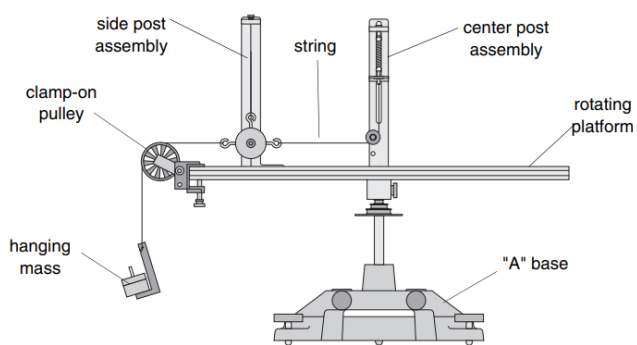
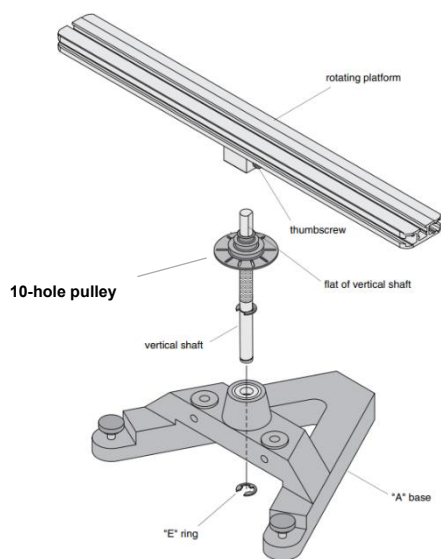

Fig. 1: Schematic of Centripetal Force Apparatus
Fig. 5: Attaching the Vertical Shaft to the Base and Rotating Platform Assembly
- (i) Consider the experiment setup illustrated by Fig. 1~ Fig. 5,
1. Set up the equipment, as shown in Fig. 1.